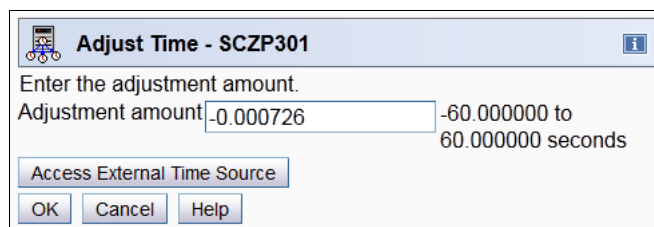
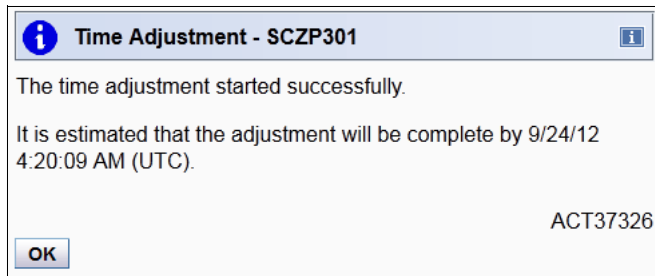
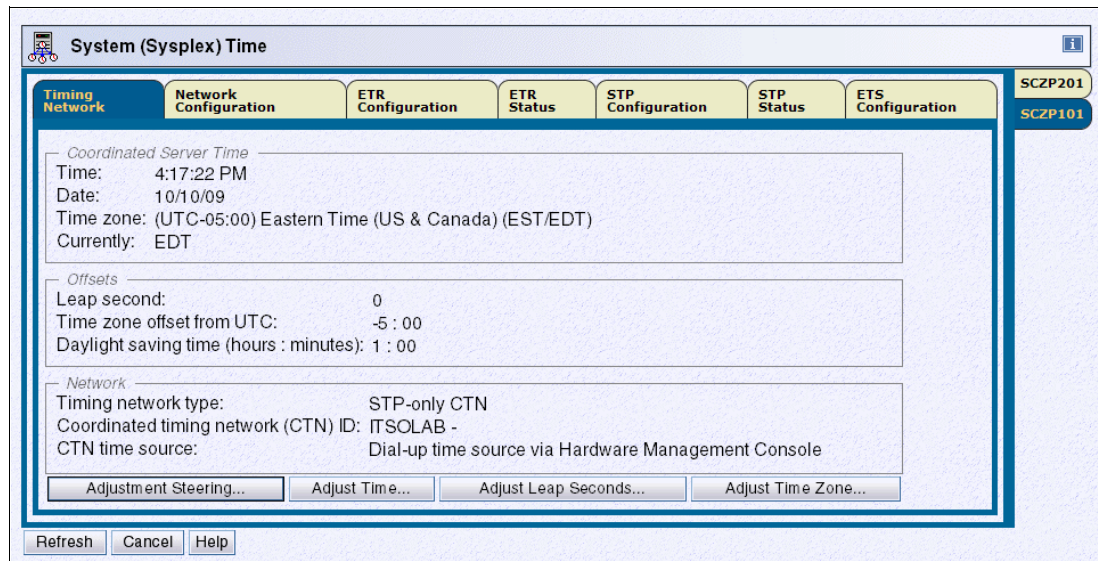
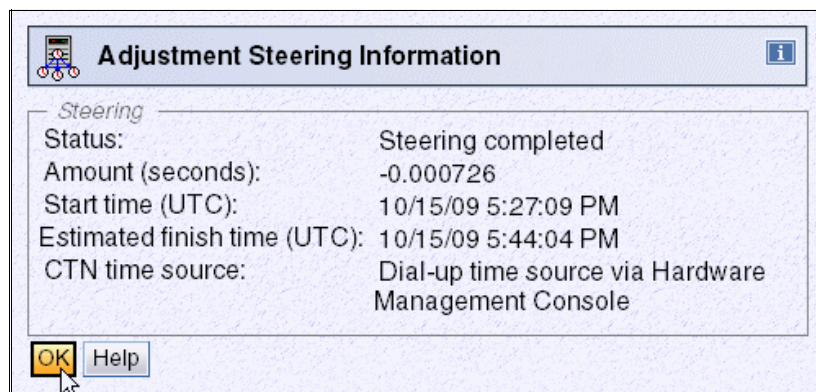

Figure 6-113 Adjust Time window - Accessing ETS to get adjustment amount
Figure 6-115 Time Adjustment window - Estimated completion time for current time adjustment
Figure 6-116 Timing Network tab - Adjustment Steering button now enabled
Figure 6-117 Adjustment Steering Information window - Steering completed
An ETS request is submitted. When the process completes successfully, the Adjust Time window displays and the difference between the Current Time Server time and the UTC time returned from the ETS is calculated and placed in the Adjustment amount field. As shown in Figure 6-113, the value returned is -0.000726 seconds. The adjustment amount may then be modified if required and applied as though it were manually entered (Figure 6-113 on page 222).
4. In the window shown in Figure 6-113 on page 222, click **OK**. If an acceptable value is entered message ACT37326 displays, indicating that the time adjustment has been activated, and an estimate is provided as to when the steering is expected to complete (Figure 6-115).
As shown in Figure 6-116, note that the CTN time source field is set to "Dial-up time source via Hardware Management Console," which indicates that the time was adjusted through the ETS.
7. As shown in Figure 6-117, the Source field is set to "Dial-up time source via Hardware Management Console," which indicates that the time was adjusted through the ETS and is the same as what appears in Figure 6-116 on page 224. The estimated finish time is the same as what appears in Figure 6-115 on page 223. Click **OK** to return to the Timing Network tab.